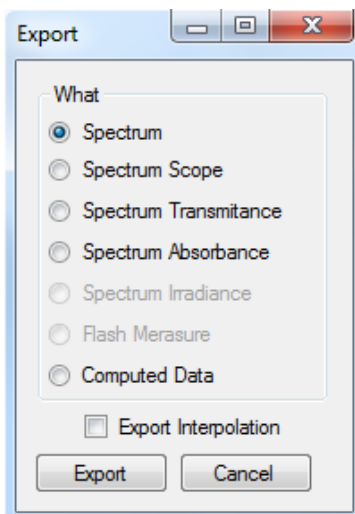

Fig. 29 Export table.
- **Spectrum** (Fig. 29) – all raw scope data for entire range of measured wavelengths.